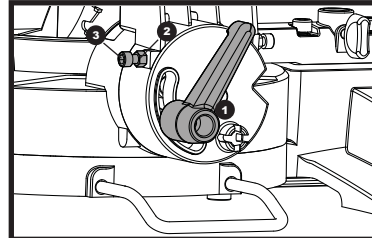

Fig 19
The 45° bevel setting can also be adjusted. Set the cutting head to 45° and check the angle between the blade and the machine table with a 45° set square (not provided). To adjust, slightly loosen the bevel lock lever (1) and the 45° adjusting screw locknut (2) (see fig. 19). Use a suitable hex key and turn the adjusting screw (3) clockwise or counter clockwise until the correct alignment is achieved. Retighten the locknut (2) and the bevel lock lever (1).